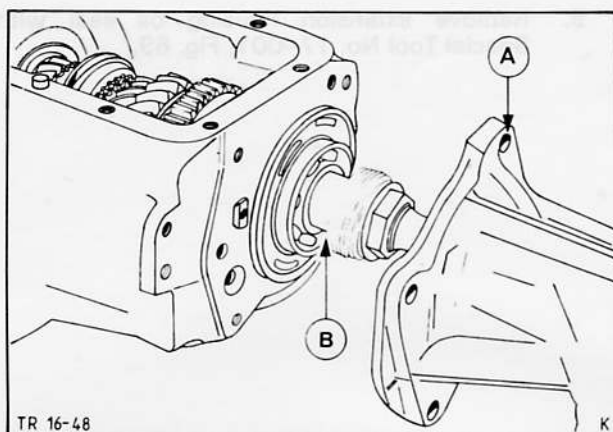

Fig. 72. Withdraw complete extension housing
8. Draw extension housing with mainshaft complete from gearbox casing and remove input shaft needle roller bearing, Fig. 72.